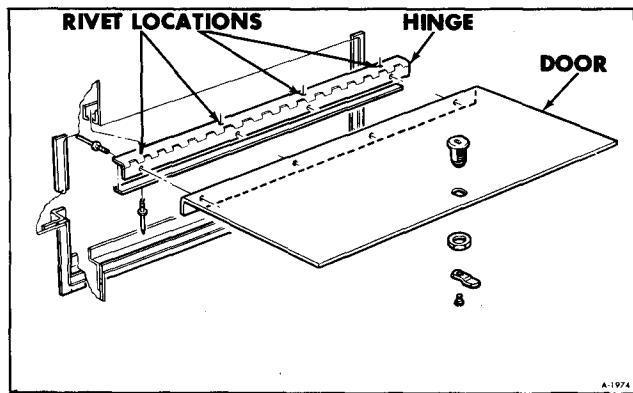

Figure 35—External Utilities Compartment Door
1. Drill out four pop-rivets holding piano hinge to body (See figure 35).